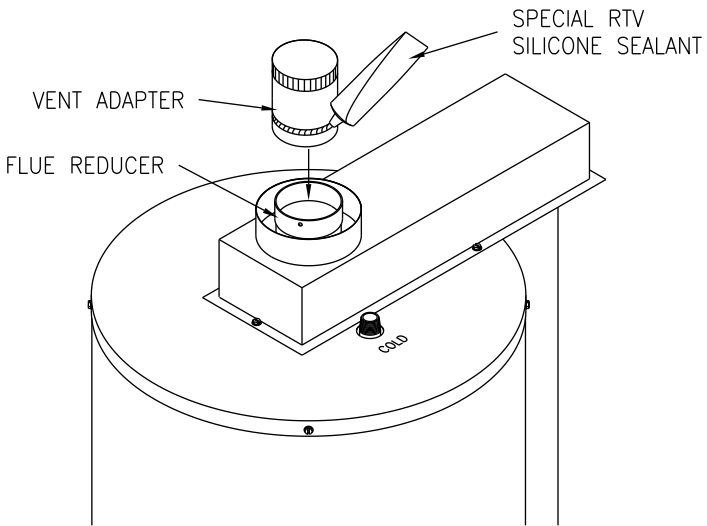

**Figure 3**
4. Cut a 6 3/4 inch (17 cm) diameter minimum clearance hole in the wall at the point where the vent-air intake tubes will pass through the outside wall and connect with the direct vent-air intake terminal (See Figure 3).
5. From outside the building, slide the preassembled coaxial flexible vent through the 6 3/4 inch hole in the wall until the outer wall mounting plate and vent terminal are flush against the wall. Mark the mounting screw hole locations. With a 3/16 inch (.5 cm) diameter drill bit (not supplied), drill holes for the wall anchors (supplied). Install the wall anchors and affix the outer wall mount plate and direct vent-air intake terminal to the wall at this time (See Figure 3). Note: Certain construction of walls may require the use of a different type of wall anchoring means than supplied. **DO NOT** modify the direct vent-air intake terminal or outer wall mount plate.